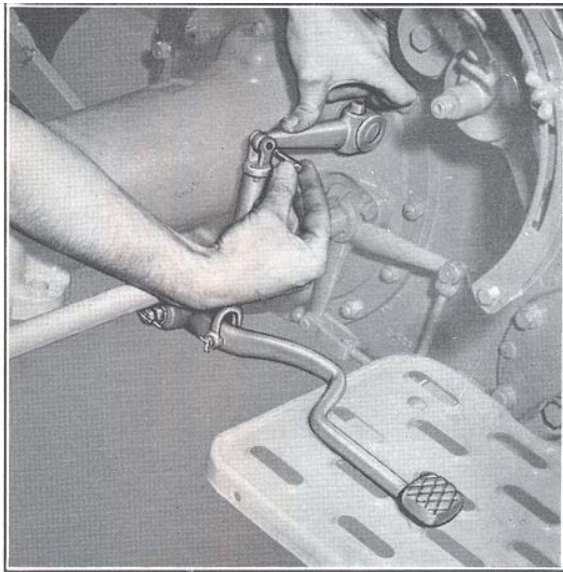

Fig. 4
4. Allow the foot pedal to rest on the footplate, ensuring that there is no dirt or grit under the pedal. Push down the operating lever until the differential coupling is fully engaged, and, without compressing the spring in the operating rod, slacken the locknut and adjust the length of the operating rod until the clevis pin can just be inserted to connect the operating rod clevis to the lever (see Fig. 4).